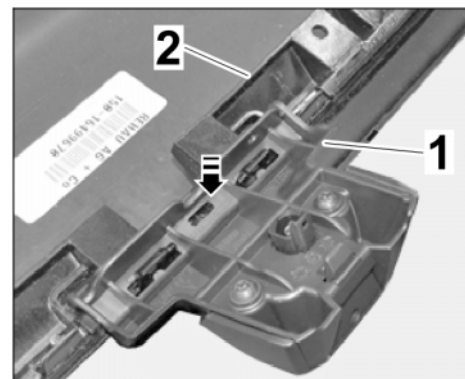

Figure 31
3.7.4 Clip front camera holder into center grille (radiator grille) (⇒ Figure 31).